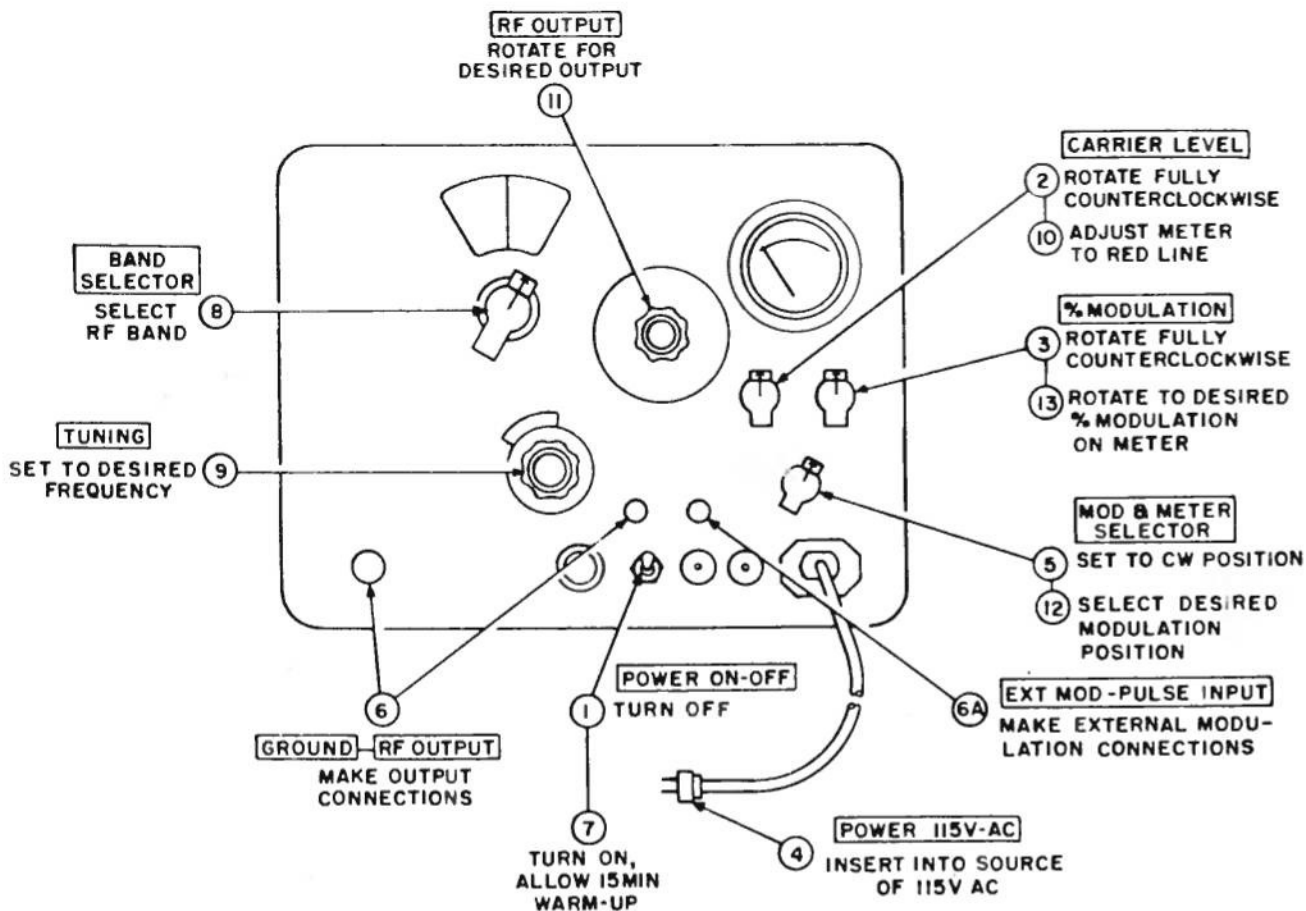

Figure 3-10. Simplified Procedure for Operating RF Signal Generator Set AN/URM-26B.
a. GENERAL. – The previous paragraphs in this section discuss in detail the operational procedures for extending the specific uses of RF Signal Generator Set AN/URM-26B. These principles may be applied as required and as determined by the needs of the measurement being made. The purpose of this paragraph is to give a simplified summary of the necessary operations. These operations are pictorially represented in figure 3-10.